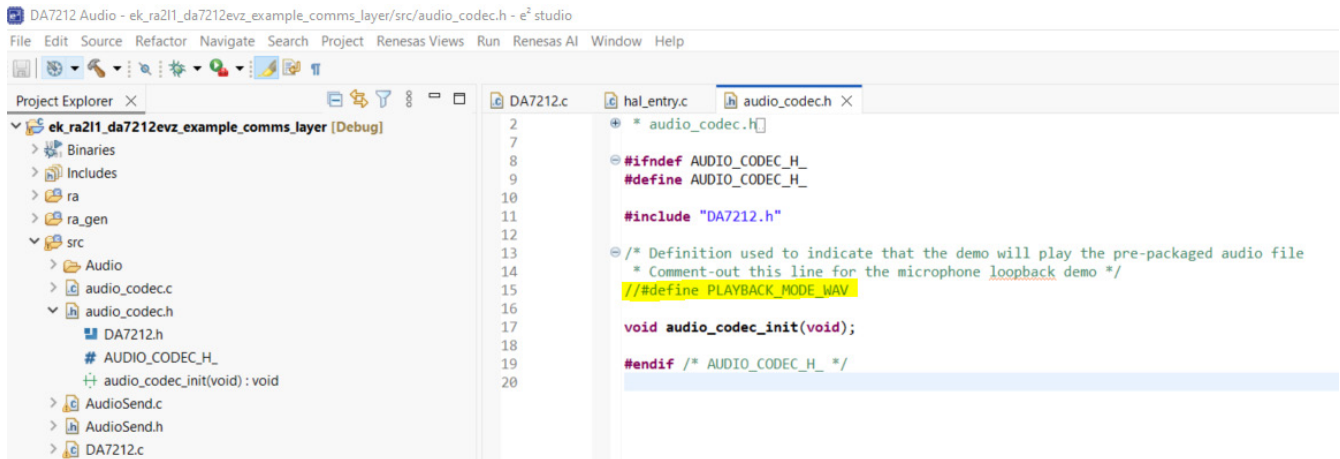

Figure 23. Sample Code audio_codec.h File
2. Open the sample code project in e² studio. Go to the **audio_codec.h** file and comment out the line **//#define PLAYBACK_MODE_WAV** (see Figure 23).